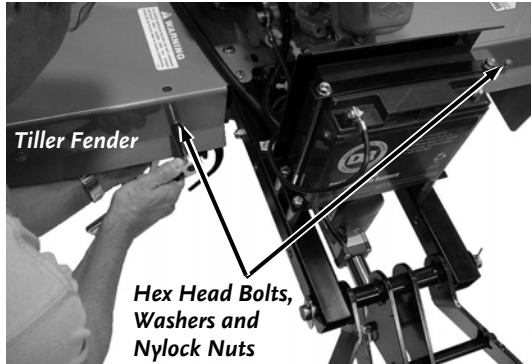

Figure 3
1. Remove two 5/16-18 X 2-1/4" Hex Head Bolts, Washers and Nylock Nuts (1/2" Wrench) from the back face of the ROTO-HOG POWER TILLER Fender (**Figure 3**).